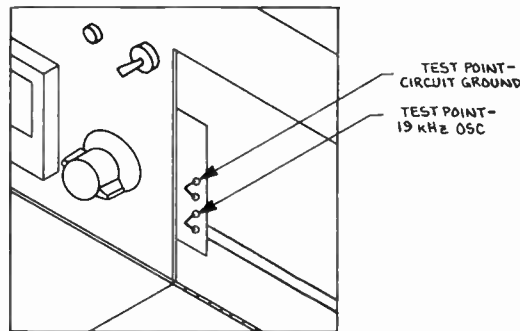

Fig. 6-1: Pilot Test Point
6) **Pilot Frequency:** This is most conveniently measured by opening the access door and connecting the frequency counter input across two terminals (Fig. 6-1) located on the P.C. card mounted on the rear of the rotary switch to the left of the access door opening.